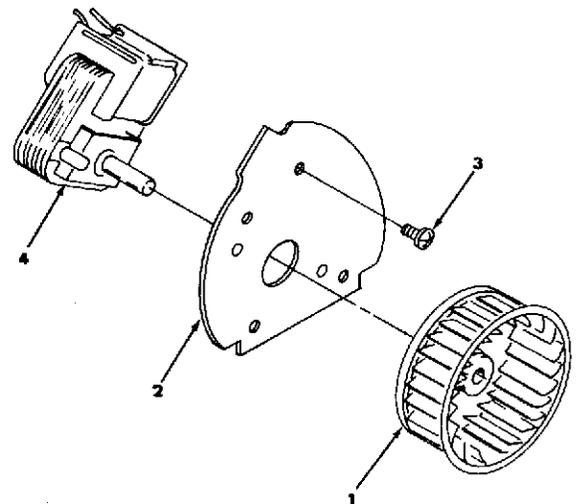
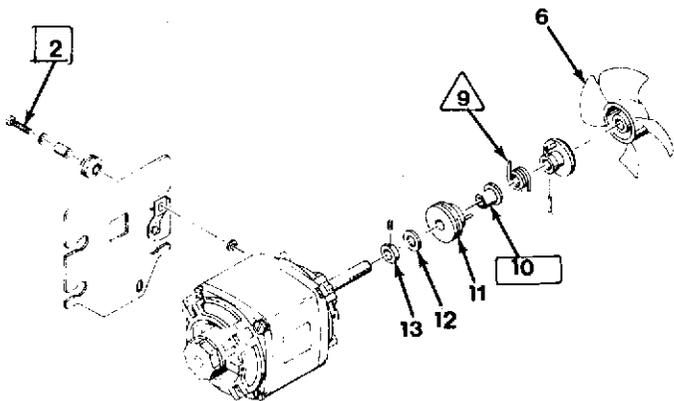

Figure 3-17. MOTOR AND PLATE ASSEMBLY
Figure 3-18. DRIVE UNIT ASSEMBLY
5. Motor and Plate Assembly (Fig.3-17)
- a. Apply Glyptal 7526 to threads and heads of screws (3).
- b. With motor shaft play taken-up toward motor, the distance between the wheel (1) and plate (2) must be within .080 to .100. The wheel must also clear screw heads while rotating.
6. Drive Unit Assembly (Fig.3-18)
- a. Lubricate inside diameter of spring (9) with Vischem No. 352 grease.
- b. Lubricate inside diameter and outside face of bearing (10) with FS-1290 grease.
- c. Collar (13) to be adjusted to allow pulley assembly (11) to rotate freely with .004 to .010 end play.
- d. Apply Glyptal 7526 to threads of screws (2).
- e. Push fan (6) onto shaft (pressure fit).